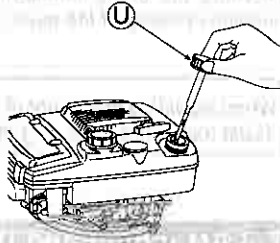

Fig. 8.
- 1 Remove Oil tank cap (U), pull out the oil gauge, and then insert it not screwing it. (See Fig. 8.)
- 2 Remove Oil tank cap (U), and confirm that the oil level is between the upper and lower limits of the oil gauge.
- 4 Firmly close Oil tank cap (U) after confirmation.